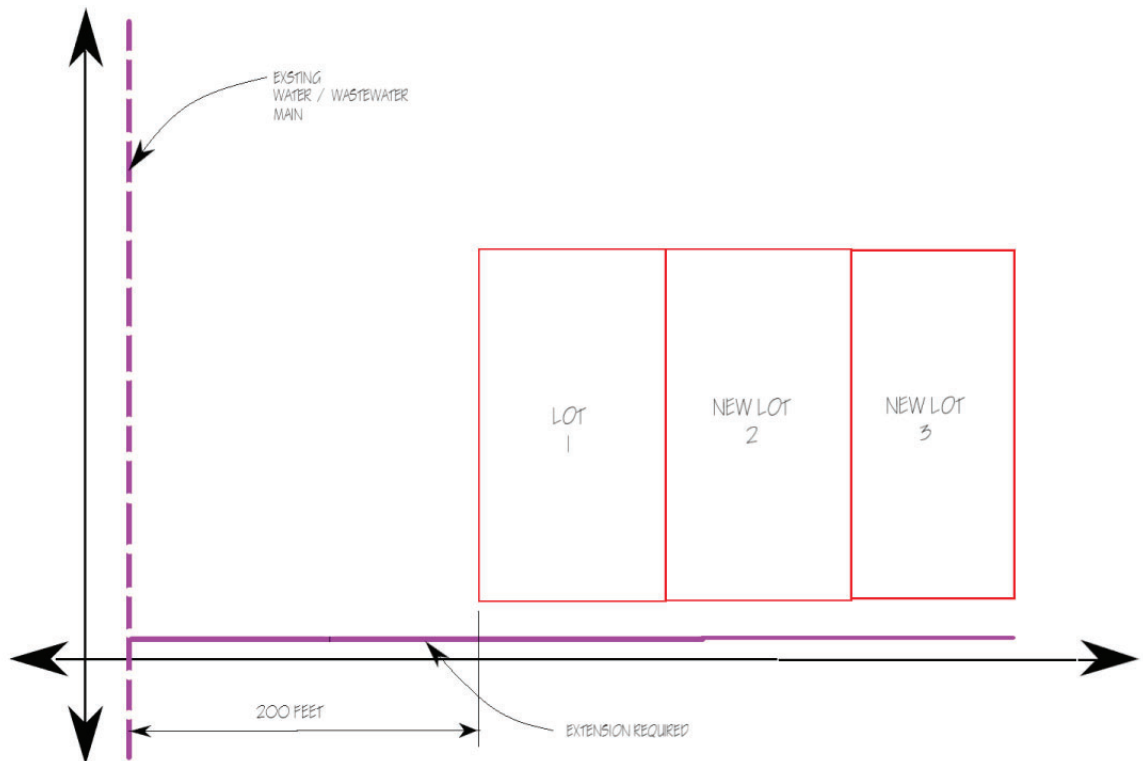

Figure 27 - More Than Single Lot Split
- 1.10. When a development is located adjacent to two (2) separate section line roads, the public utilities must be extended along both section lines roads adjacent to the property to the furthest extent of the property boundary. See Figure 27.